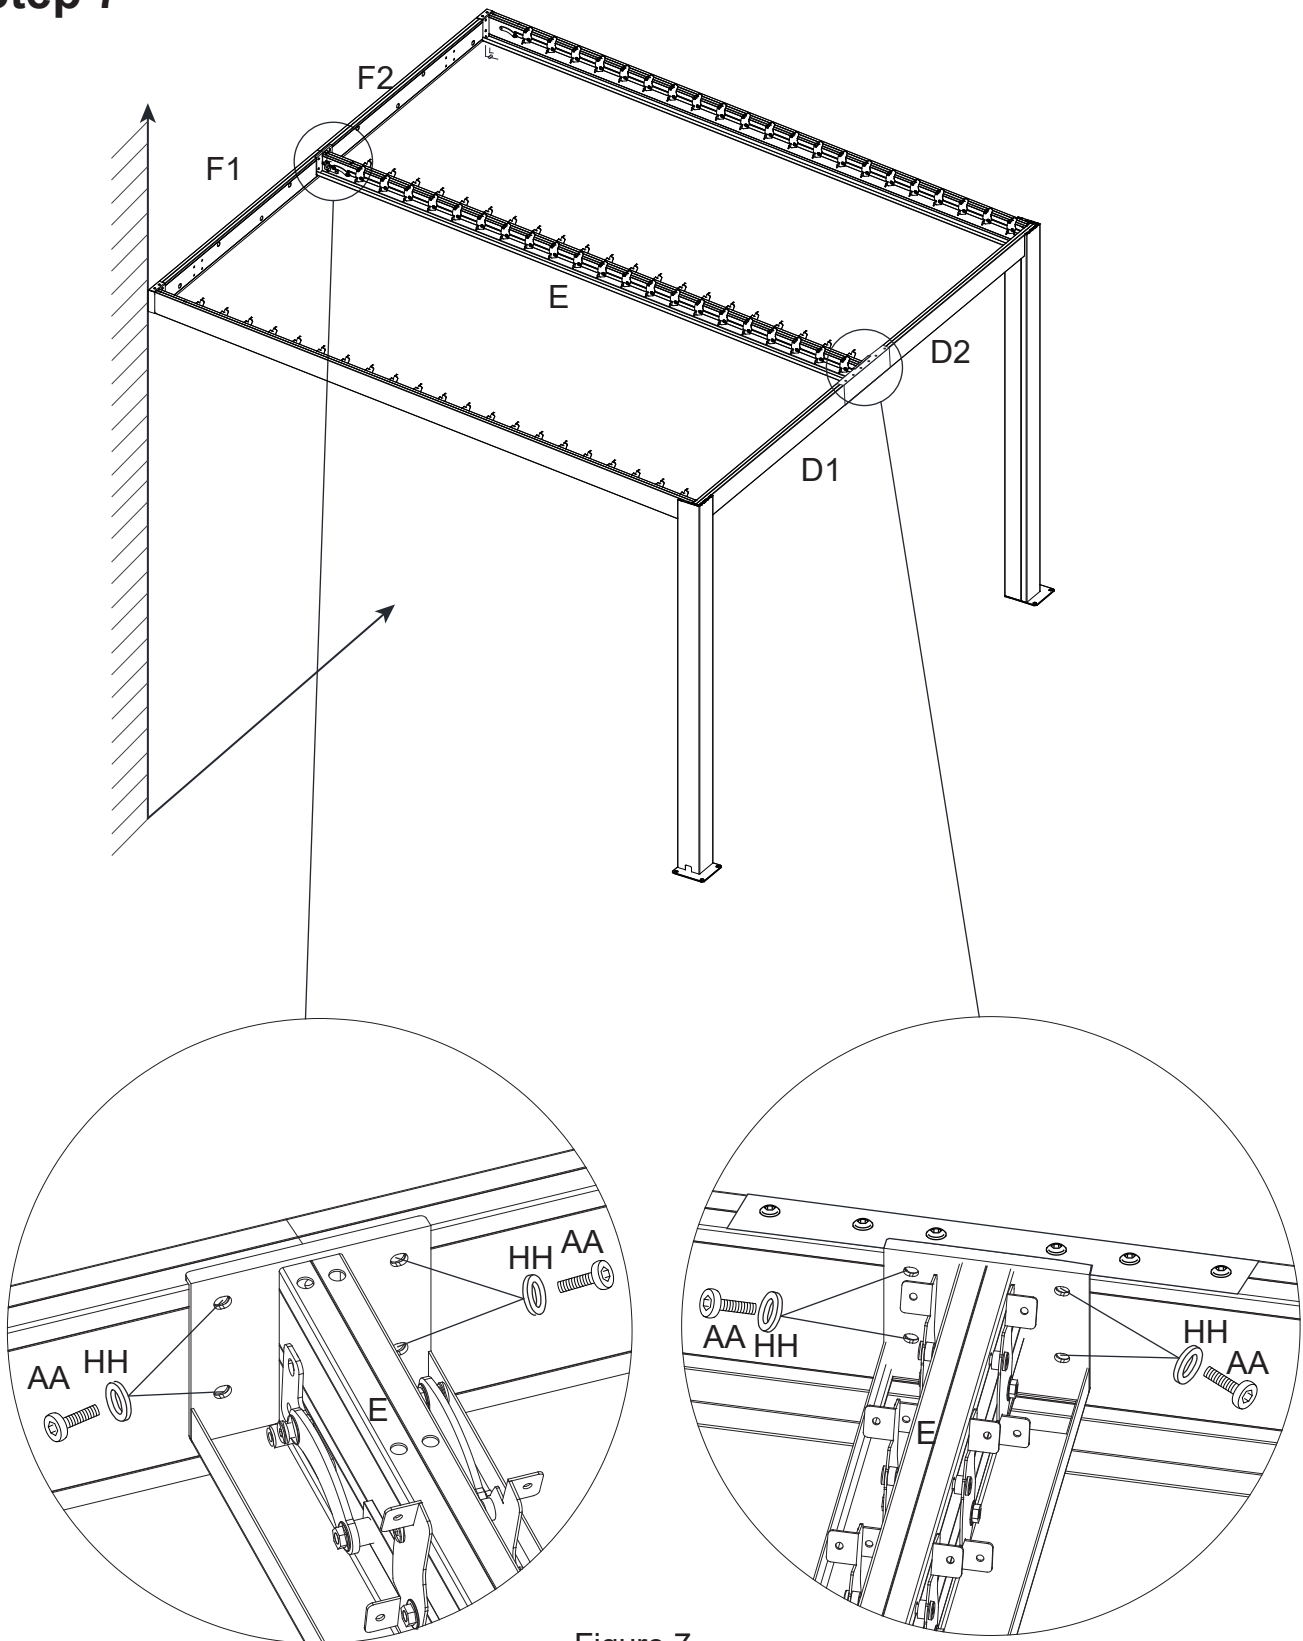

Figure 7
7. Connect one end of the Middle Lintel (E) with the Front Lintel (D1/D2), connect the other end of the Middle Lintel (E) with the Rear Lintel (F1/F2) by using Bolts (AA) and Washers (HH). See Figure 7.